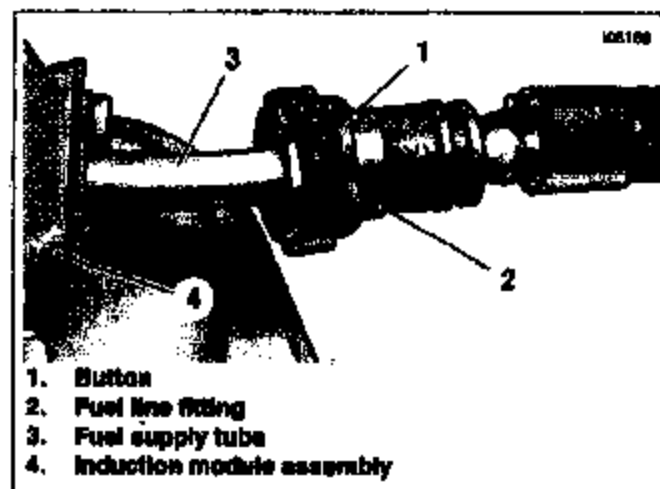

Figure 3. Fuel Supply Line Fitting - Induction Module
9. See Figure 3. Depress button (1) on fuel line fitting (2) and pull to release from fuel supply tube (3).
1. See Figure 3. Slide new fuel line onto fuel supply tube (3), until fuel line fitting (2) "clicks" in place. Gently tug on fuel line to verify that it is locked in place.